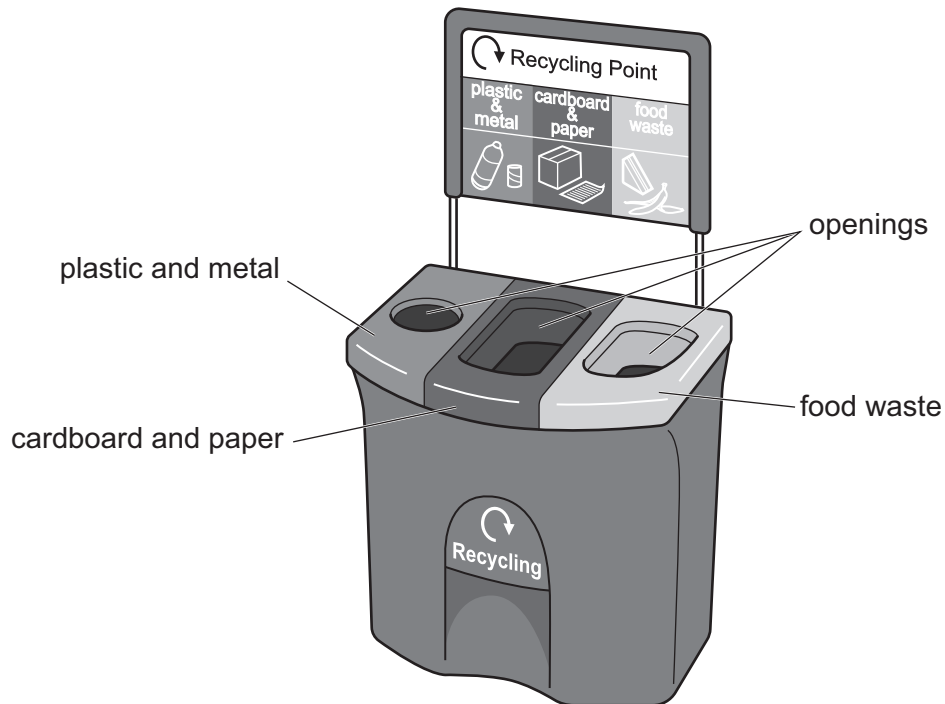

Fig. 5.3
- (c) Fig. 5.3 shows a recycling unit containing three bins. The unit could be positioned by the vending machine.